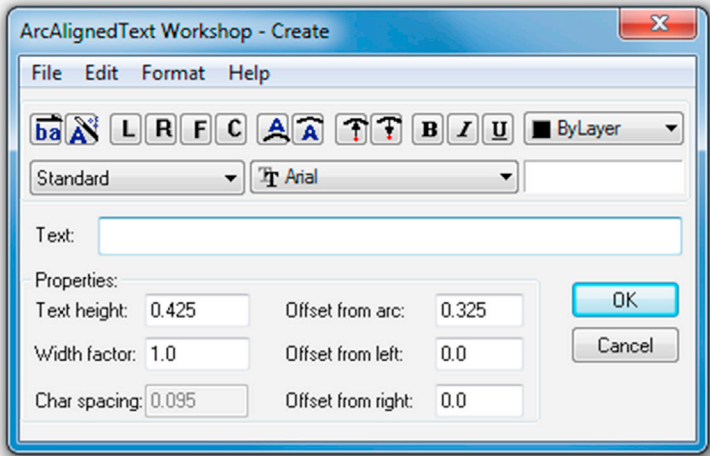

FIGURE 14.33 ArcAligned Text.
- *ArcAligned Text*: This command is used to tackle a problem that has never been addressed by AutoCAD prior to Express Tools’s existence: How to create text that stretches around an arc. The procedure is to draw an arc and select this tool (or just type in `arctext`), then select the arc. The dialog box seen in Fig. 14.33 appears. Enter the actual text and adjust